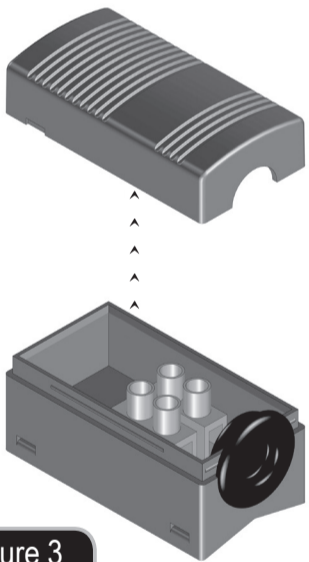

Figure 3
1) Open the cover of temperature sensor package. See Figure 3.